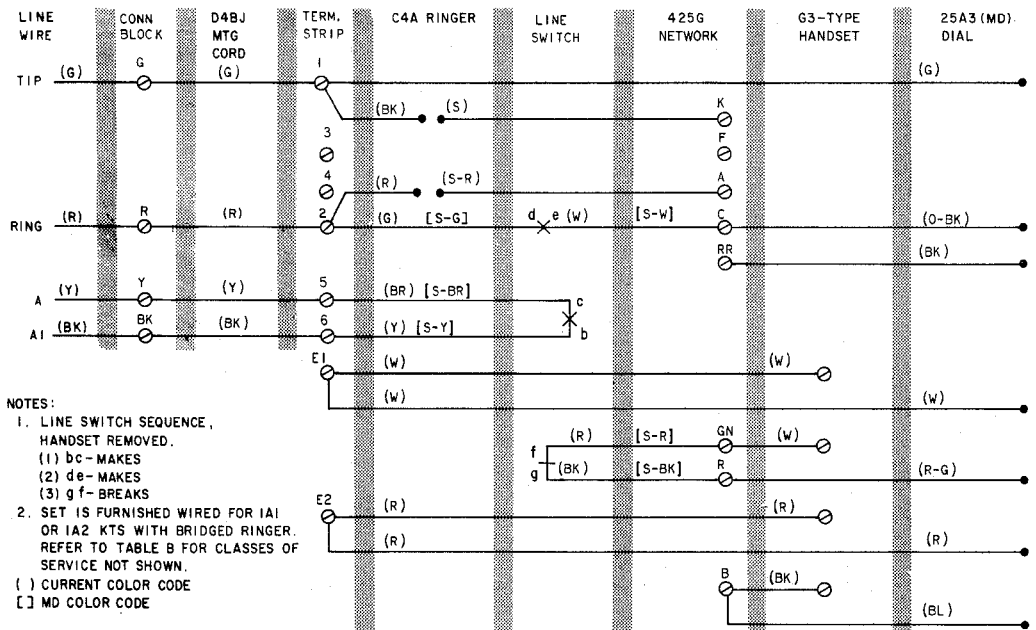

Fig. 1—1500M (MD) Telephone Set Connections, With 25A3 (MD) Dial
1.01 Reissued to add nontechnical changes to Fig. 1, 2 and Tables A, B.